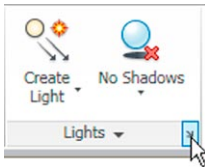
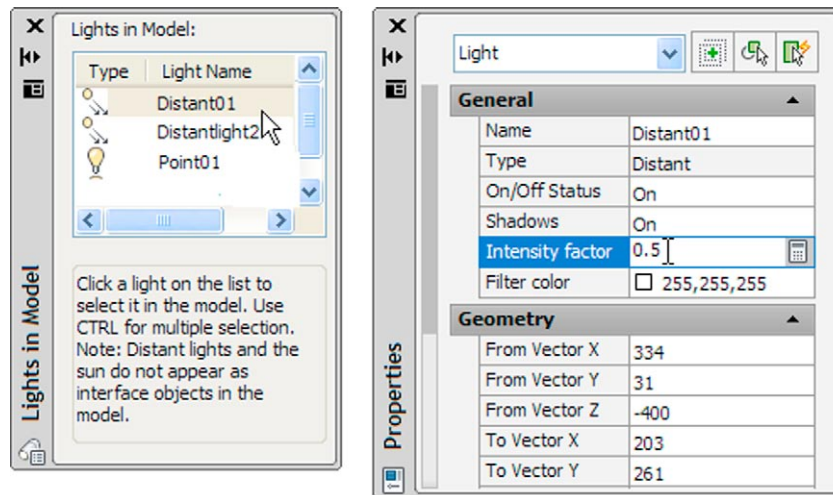

Fig. 15.24 The arrow at the bottom of the Render/Lights panel
Fig. 15.25 The Lights in Model and Properties palettes
- When the model has been rendered if a light requires to be changed in intensity, shadow, position or colour, *click* the arrow at the bottom right-hand corner of the **Render/Lights** panel (Fig. 15.24) and the **Lights in Model** palette appears (Fig. 15.25). *Double-click* a light name in the palette and the **Properties** palette for the elected light appears into which modifications can be made (Fig. 15.25). Amendments can be made as thought necessary.